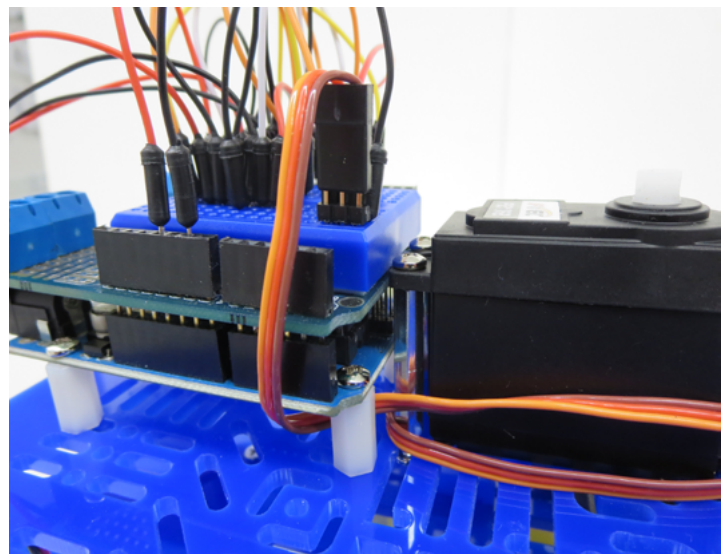

Fig.19
2. Plug the Servo Motor Cable into the breadboard as shown in Fig. 19.